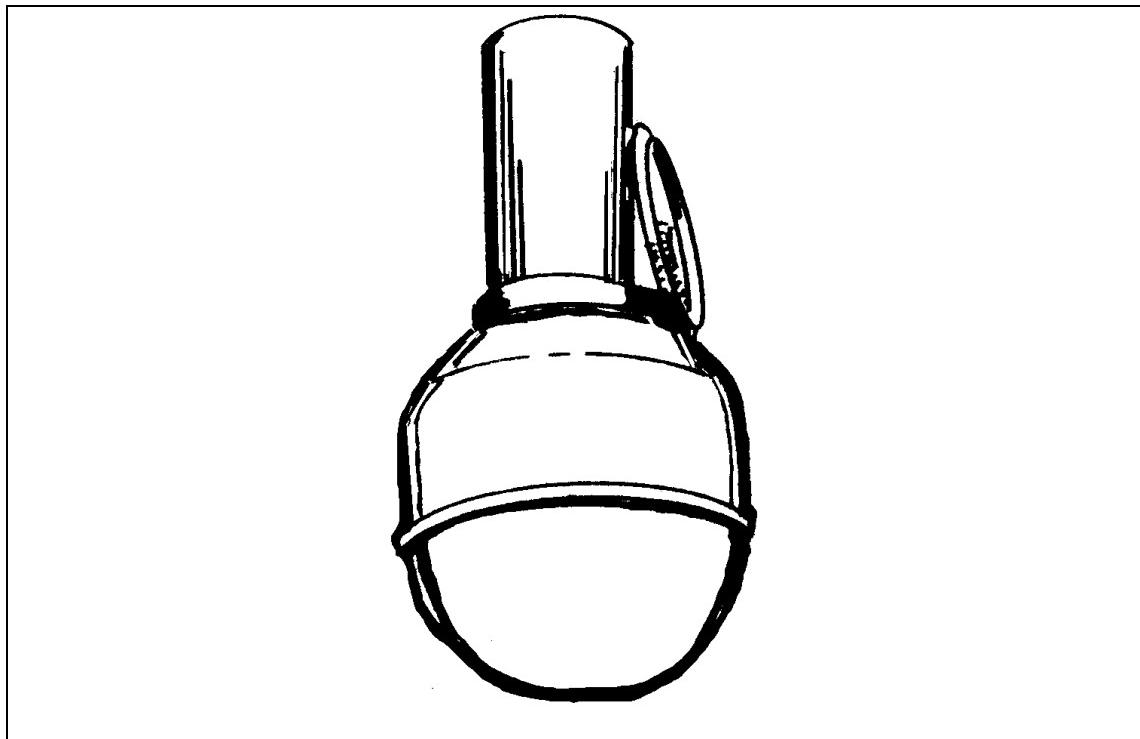

Figure D-13. Type 73 fragmentation grenade.
- Type: Fragmentation. (Figure D-13)